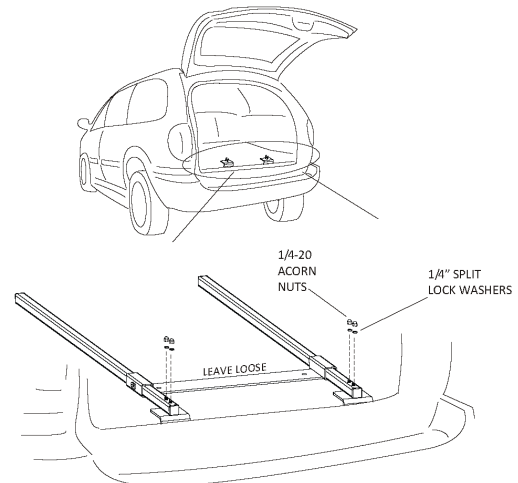

Figure 4-32
- Place the assembly down onto threaded studs on the top leg assembly. Add 1/4" split lock washers and 1/4-20 acorn nuts to each threaded stud and tighten (10 ft-lb). *See Figure 4-32.*